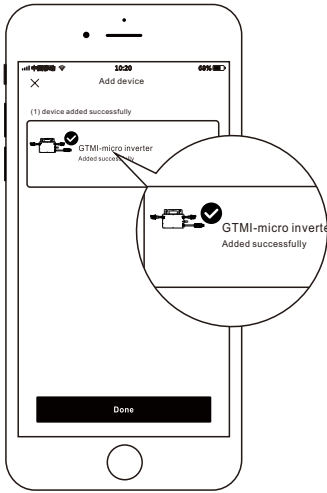

Figure 4
- Step 4. When the inverter completes network distribution and displays the interface as shown in Figure 4, click "Done".